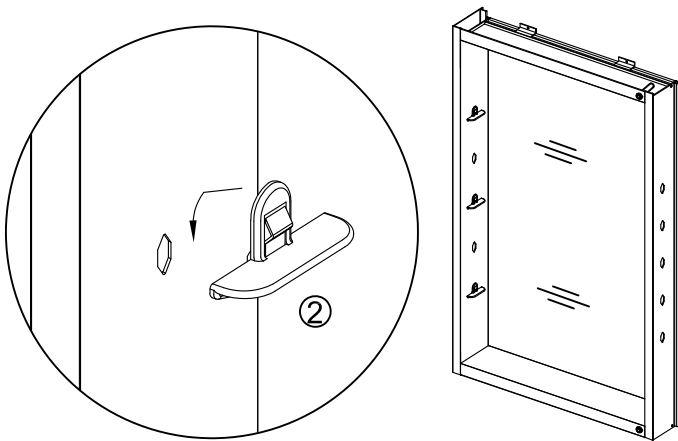

Fig 16
1 .Insert clear shelf clip ② into appropriate hole location using 2 clips per shelf (Fig 16).